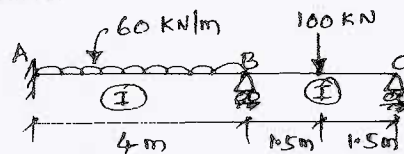

Fig.Q6
- 6 Analyse the continuous beam shown in Fig.Q6 by flexibility matrix method. Draw Bending Moment Diagram and elastic curve. (20 Marks)